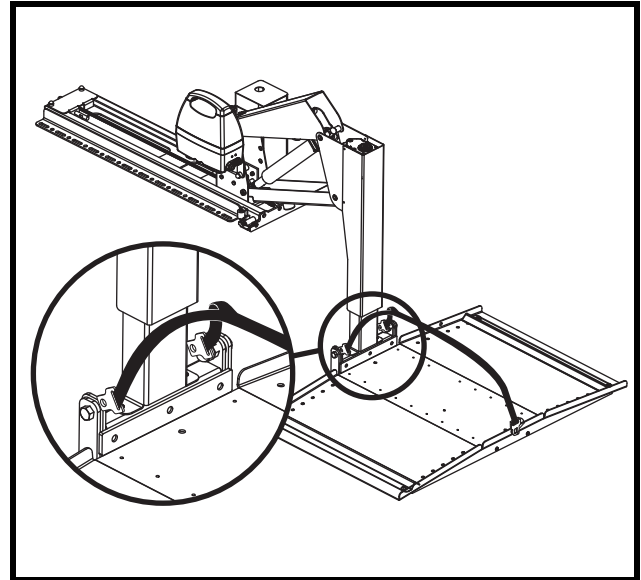

Figure 9. Platform Adjustment Bolts
2. Remove the device from the platform for easy access to the three adjustment bolts located where the platform connects to the lowering arm. **See figure 9.**